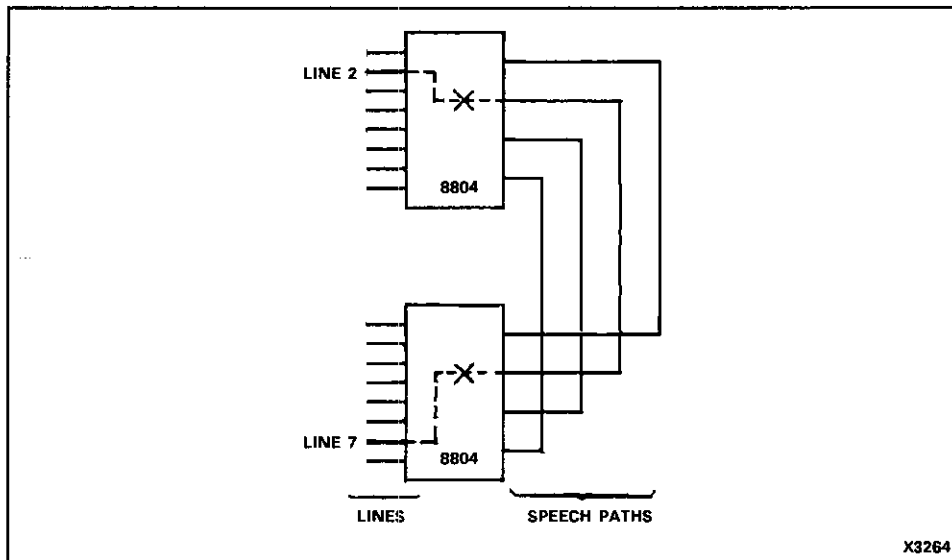

Figure 2-5 Speech Path Accessing
2.35 Each speech path is directly wired on the Miscellaneous Card, Trunk Expander Card and each Line Card to an 8804 which can (under processor control) connect the speech path to any circuit on the card (i.e., a line circuit or a tone generator). The processor sends a card-select signal to access a particular card, together with a combination of address and data signals which close the required "contacts". This concept is illustrated in Figure 2-5 and shows that Line Circuit Numbers 2 and 7 have been connected to each other using Speech Path Number 2.